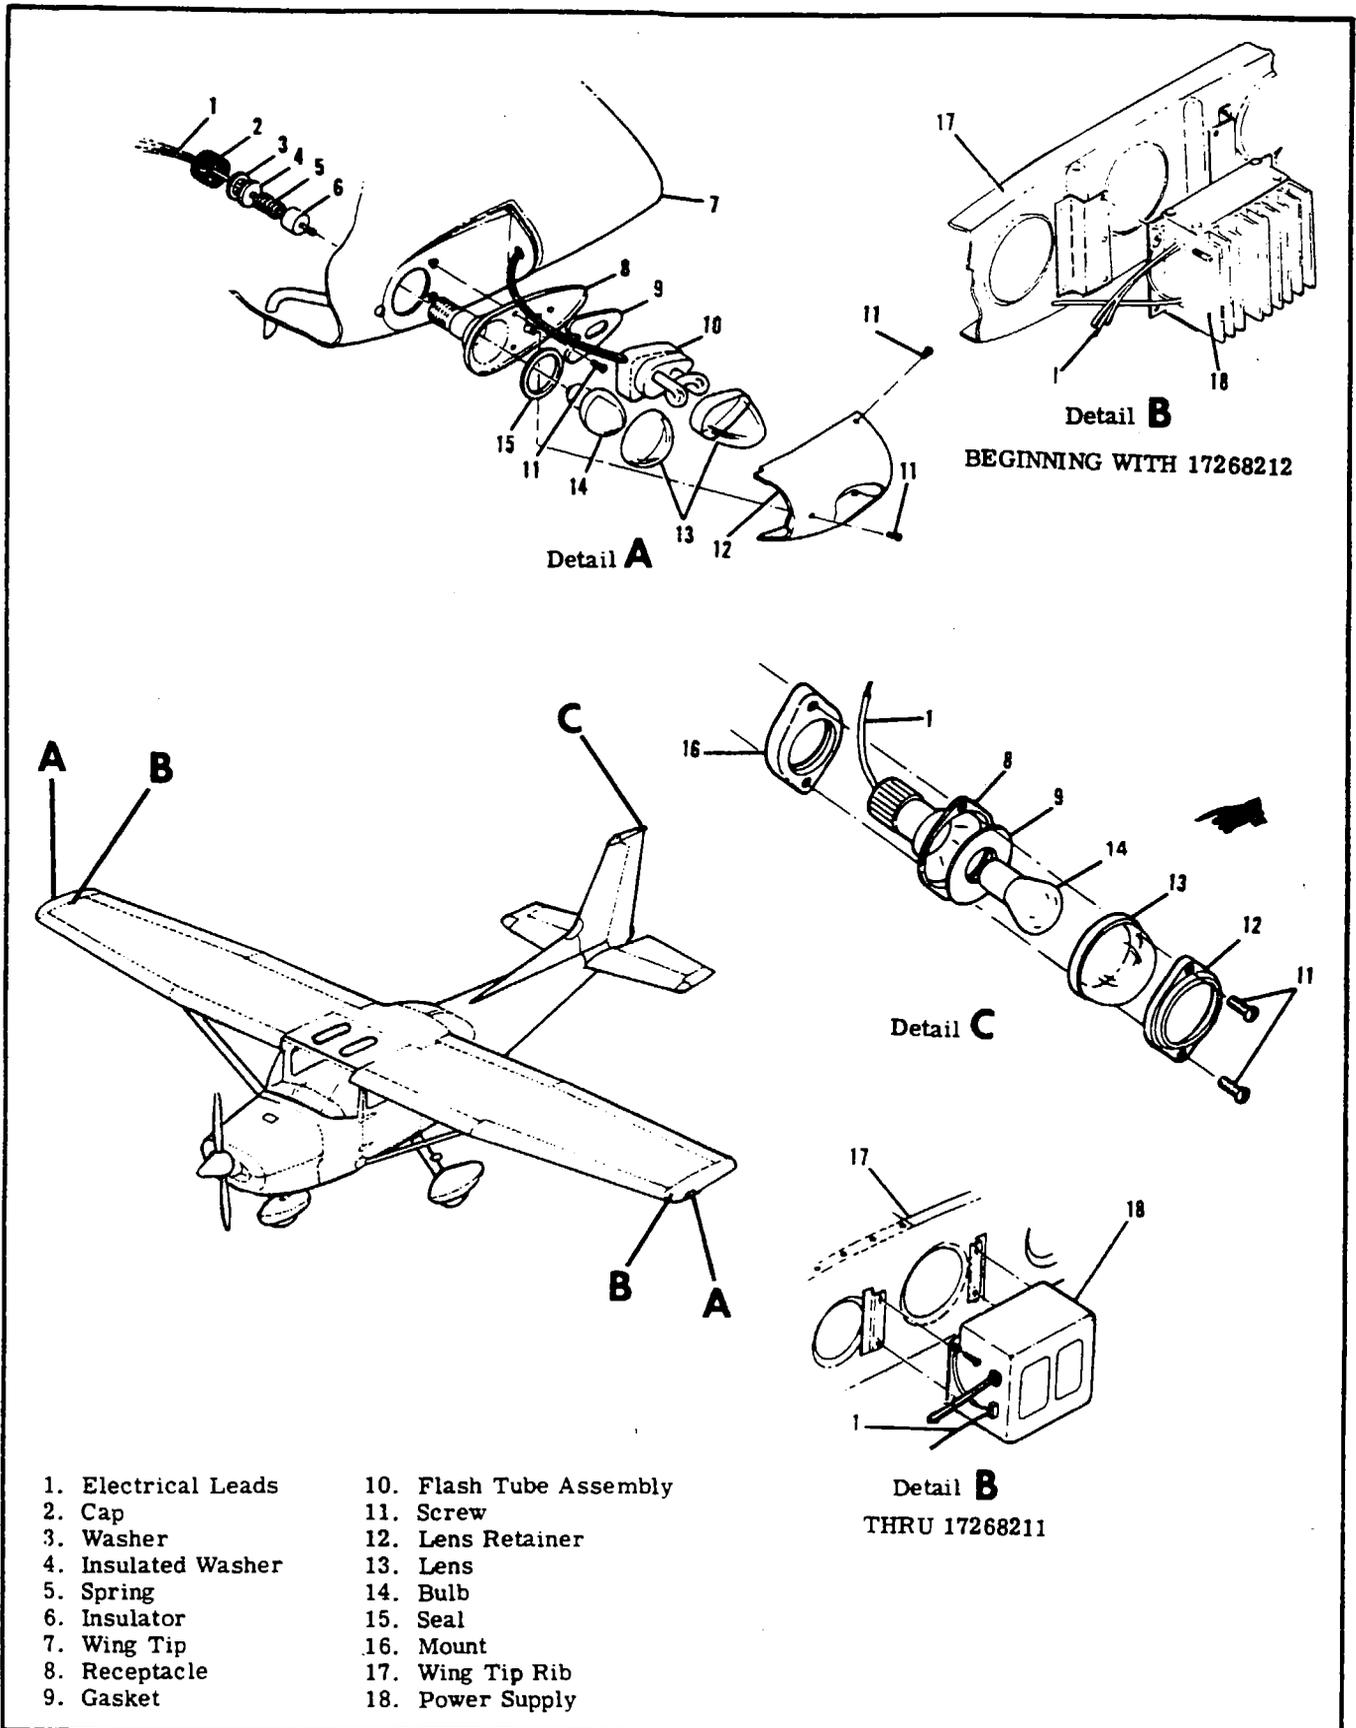

Figure 16-7. Navigation and Anti-Collision Strobe Light Installation
- 16-56. REMOVAL AND INSTALLATION. For removal and installation of the navigation lights, see figure 16-7.
- 16-59. REMOVAL AND INSTALLATION. For removal and installation of strobe light and power supply, see to figure 16-7.